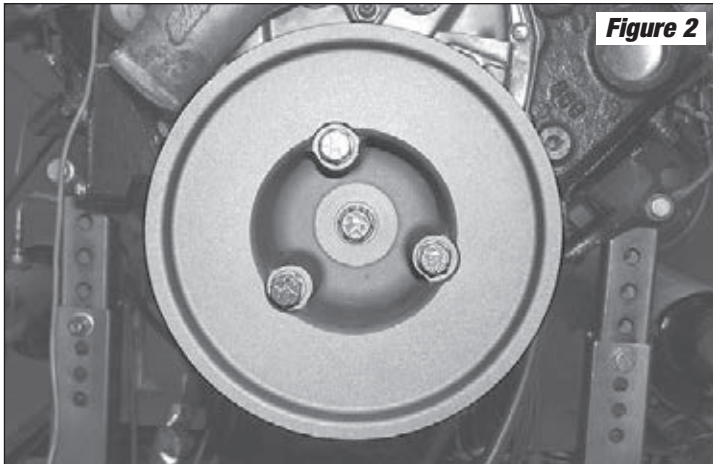

Figure 2
1. Install the supercharger drive pulley in front of the factory crank pulley using the supplied 3/8-24 x 3.75" long hex head bolts and 3/8" washers (See Figure 2). Then install the supplied 7/16-20 x 2.75" balancer bolt with a 7/16" washer and snug the bolt down until the pulley is flush. **Do not torque down the bolts at this time.**